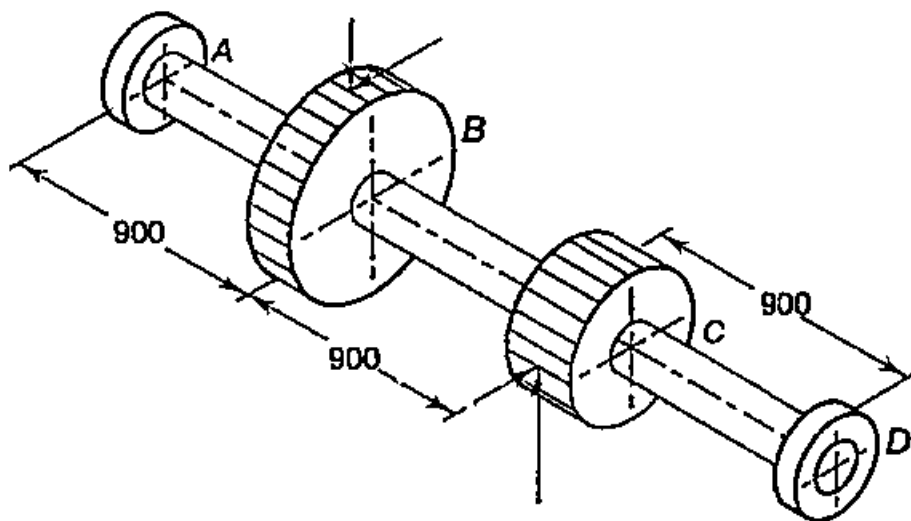

Fig:6
- (b) The layout of an intermediate shaft of a gear box supporting two spur gears B and C is shown in Fig.6. The shaft is mounted on two bearings A and D. The pitch circle diameters of gears B and C are 900 and 600 mm respectively. The material of the shaft is steel FeE 580 ($\sigma_{ut} = 770$ and $\sigma_{yt} = 580$ N/mm²). The factors k_b and k_t of ASME code are 1.5 and 2.0 respectively. Determine the shaft diameter using the ASME code. Assume that the gears are connected to the shaft by means of keys.